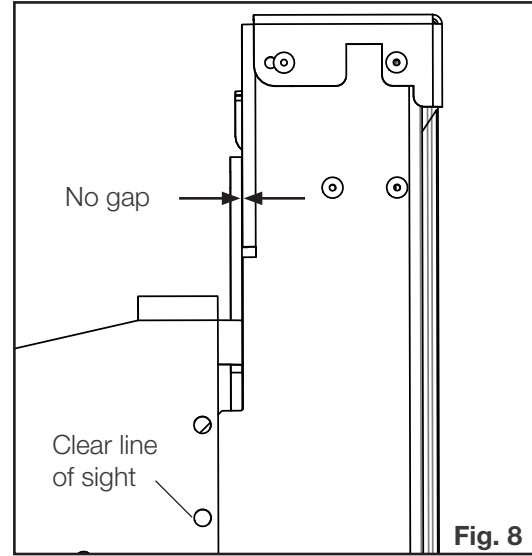

Fig. 8
- The GGA mount bracket holes should be lined up with the screw holes of the GGA slider brackets to ensure a clear line of sight (**Fig. 8**). It is typically necessary to raise the GGA on both sides using the vertical adjustment screws. Raising the GGA approximately 1/8" typically provides the optimum preliminary fit (**Fig. 9**). Repeat on other end of GGA.